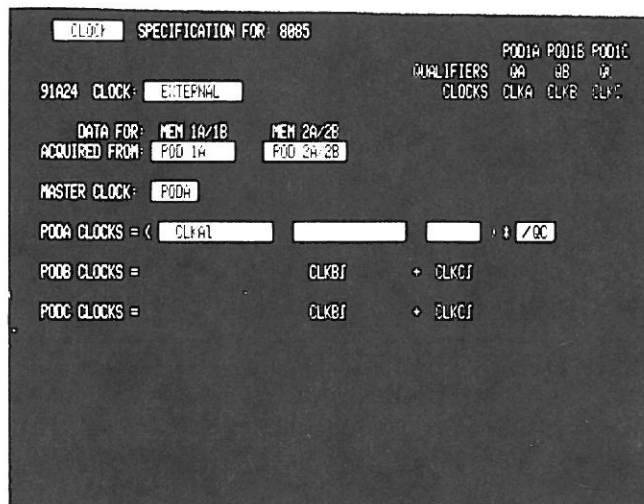

Figure 18. Using /QC to eliminate acquisition of DMA cycles.
By specifying /QC, bus cycles will be acquired only when HLDA(H) is low. The qualified master clock expression is shown in Figure 18.